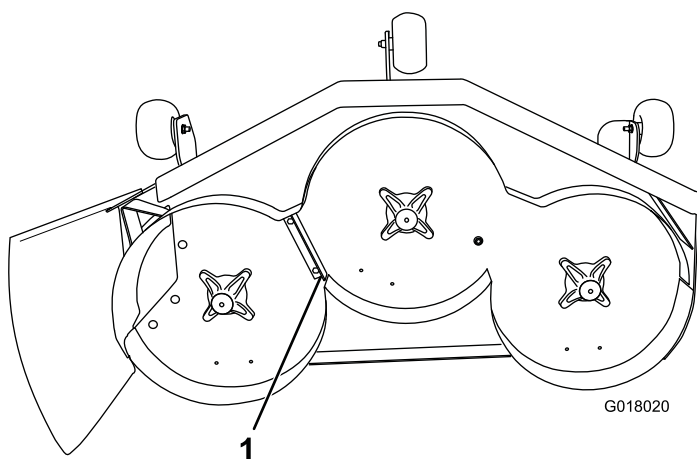

Figure 28
8. Remove the Recycler® bracket from the mower deck shown in Figure 28.